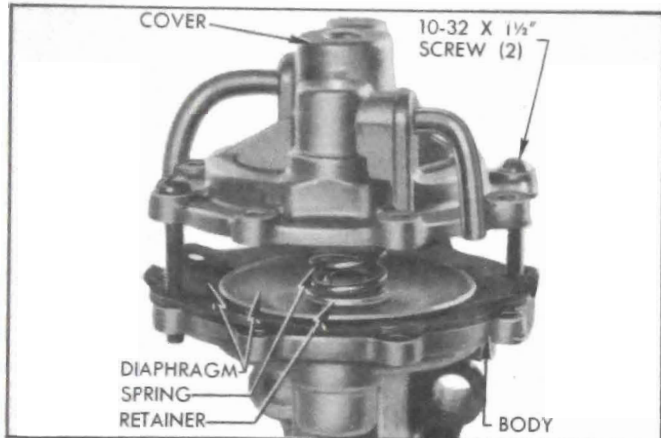

Figure 3-12—Removing Vacuum Cover
1. Replace two diametrically opposite vacuum cover screws with 10-32 x 1½" screws and turn them down snug. Remove all other cover screws, then alternately loosen the 1½" screws until pressure of diaphragm spring against cover is fully released. See figure 3-12.
9. With projection of vacuum cover placed toward rocker arm, install two 10-32 x $1\frac{1}{2}$ \" screws in diametrically opposite screw holes (fig. 3-12) and alternately turn screws down until cover is close to the diaphragm.